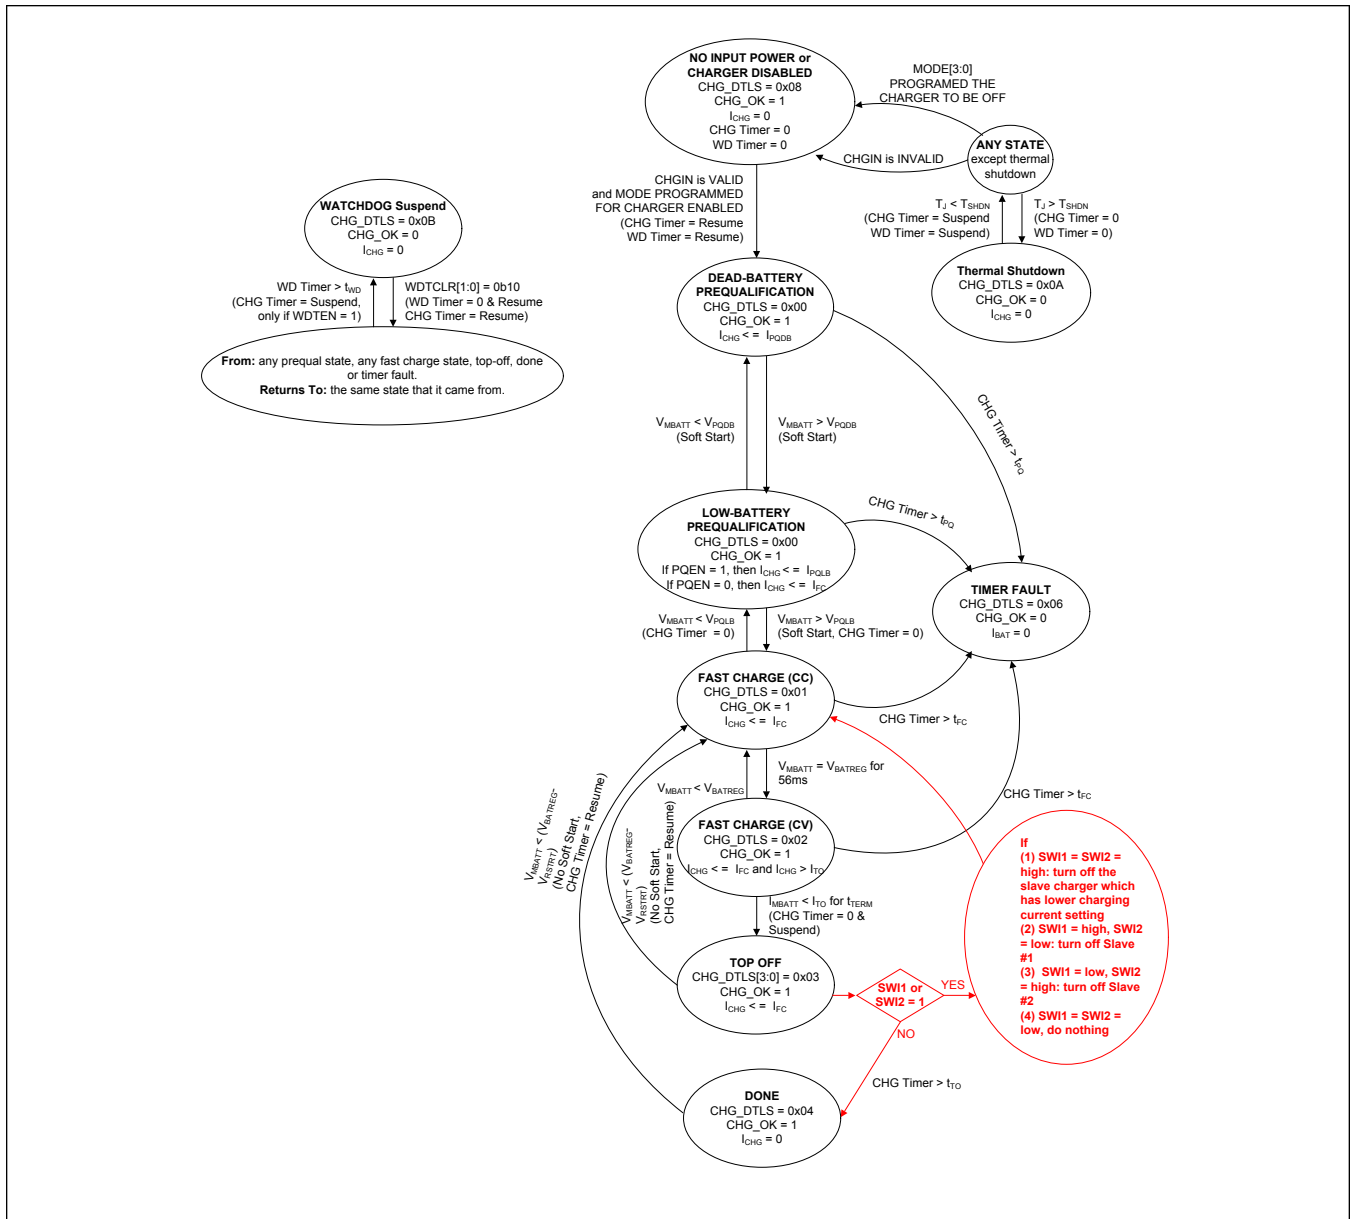
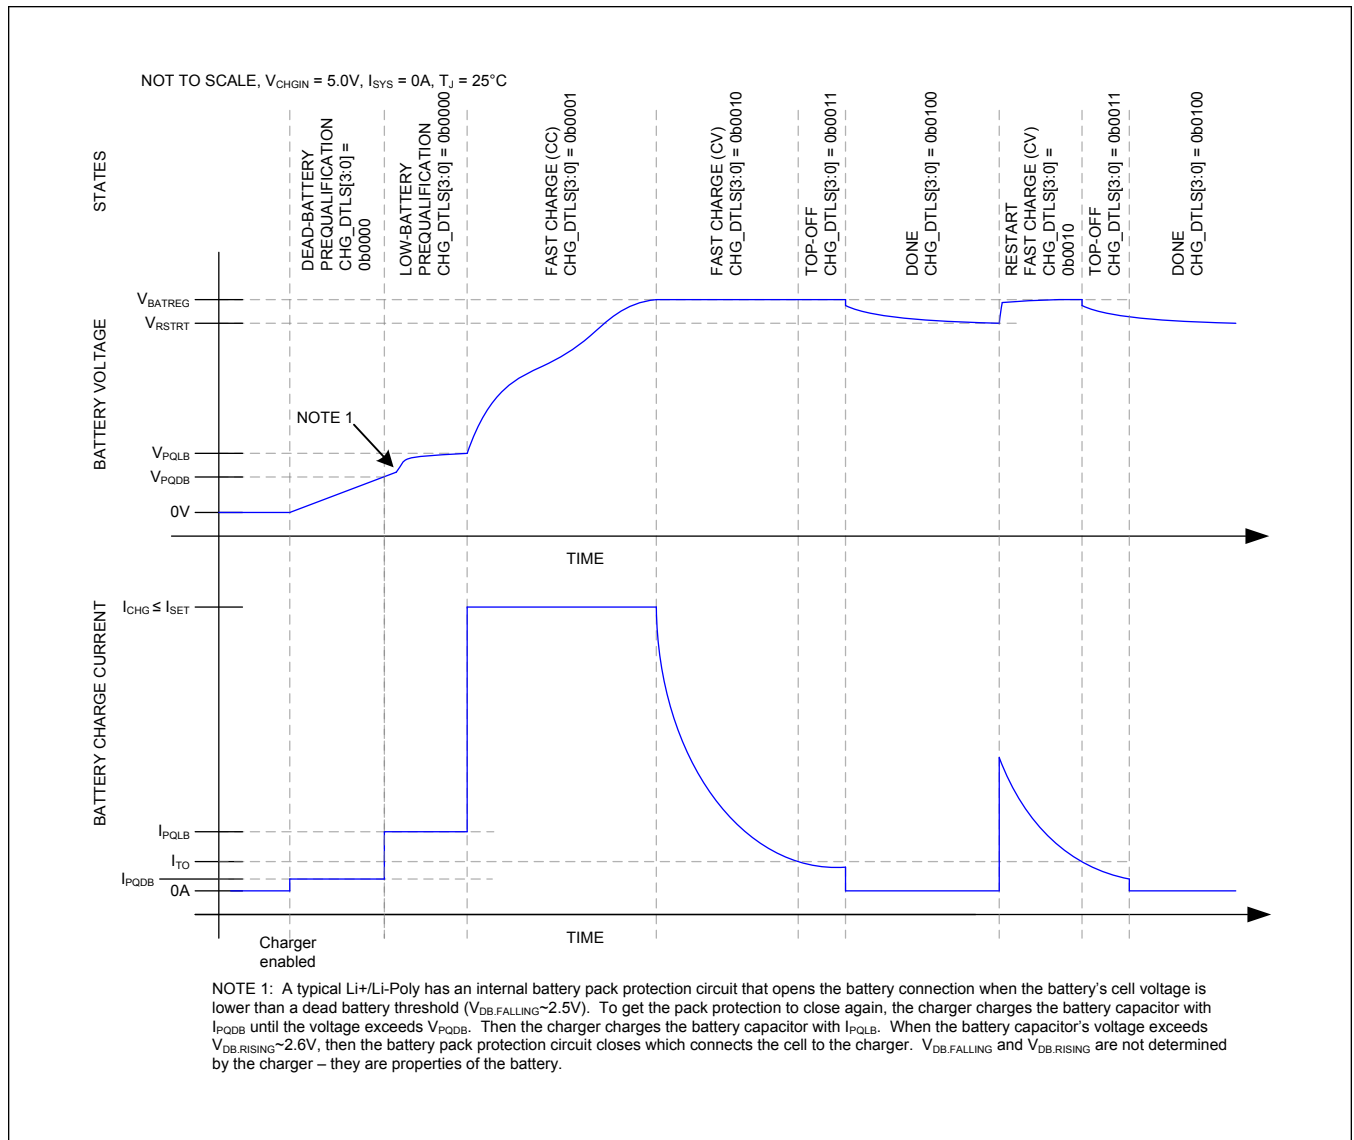
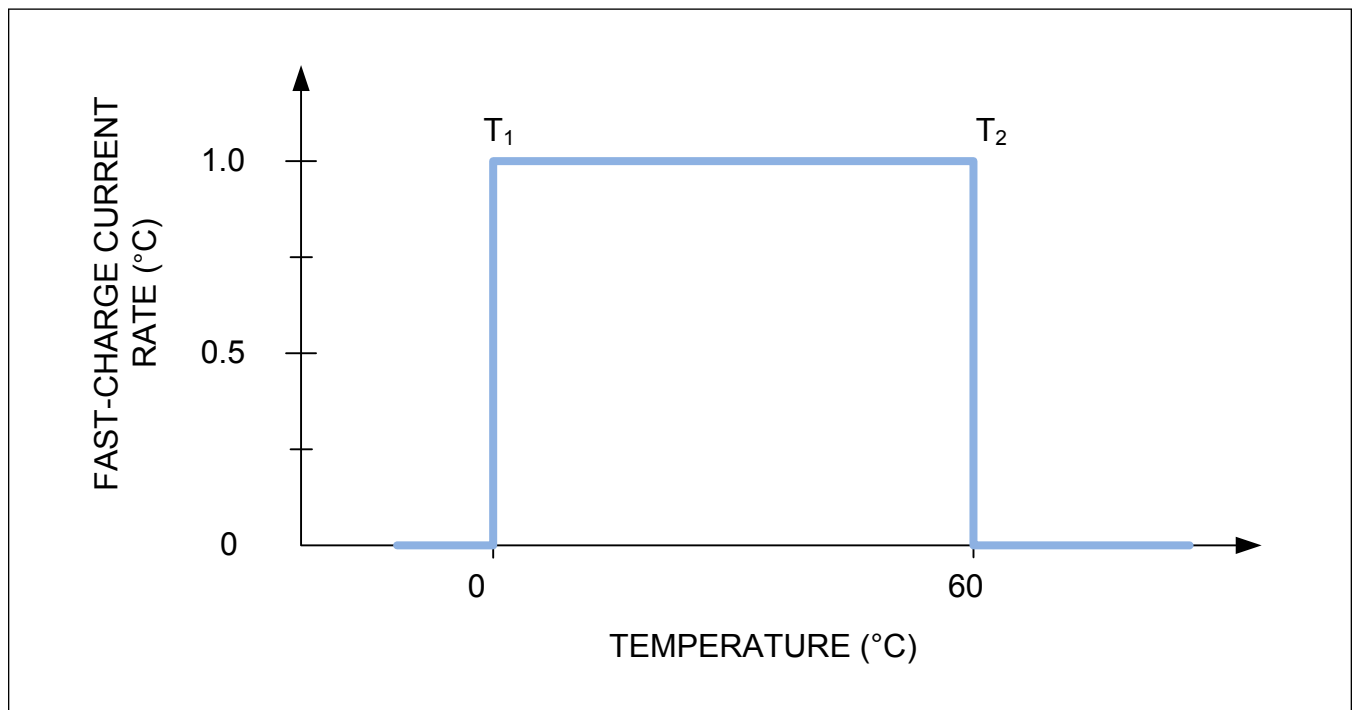

Figure 3. Charger State Diagram
Figure 4. Li+/Li-Poly Charge Profile
Figure 10. Thermal Shutdown Regions
DETBATB is tied to the ID pin of the battery pack. If DETBATB is pulled below 80% of  $V_{IO}$  pin voltage, this is an indication that the main battery is present and the battery charger starts upon valid CHGIN. If DETBATB is left unconnected or equal to  $V_{IO}$  voltage, this indicates that the battery is not present and the charger does not start upon valid CHGIN, see Figure 4. DETBATB is internally pulled to BATT through an external resistor. The DETBATB status bit is valid when BATT is not present.
The IC utilizes several charging states to safely and quickly charge batteries as shown in Figure 3. An exaggerated view of a Li+/Li-Poly battery is shown in Figure 4 when there is no system load and the die and battery are close to room temperature as it progresses through the following charge states:
As shown in Figure 3, the dead-battery prequalification state occurs when the main-battery voltage is less than  $V_{PQDB}$ . After being in this state for  $t_{SCIDG}$ , a CHG\_I interrupt is generated, CHG\_OK is set, and CHG\_DTLS is set to 0x00. In the dead-battery prequalification state, charge current into the battery is  $I_{PQDB}$ .
As shown in Figure 3, the fast-charge constant current (CC) state occurs when the main-battery voltage is greater than the low-battery prequalification threshold and less than the battery regulation threshold ( $V_{PQLB} < V_{BATT} < V_{BATREG}$ ). After being in the fast-charge CC state for  $t_{SCIDG}$ , a CHG\_I interrupt is generated, CHG\_OK is set, and CHG\_DTLS = 0x01.
As shown in Figure 3, the topoff state can only be entered from the fast-charge CV state when the charger current decreases below  $I_{TO}$  for  $t_{TERM}$ . After being in the topoff state for  $t_{SCIDG}$ , a CHG\_I interrupt is generated, CHG\_OK is set, and CHG\_DTLS = 0x03. In the topoff state, the battery charger tries to maintain  $V_{BATREG}$  across the battery and typically the charge current is less than or equal to  $I_{TO}$ .
As shown in Figure 3, the battery charger enters its done state after the charger has been in the toff state for  $t_{TO}$ . After being in this state for  $t_{SCIDG}$ , a CHG\_I interrupt is generated, CHG\_OK is cleared, and CHG\_DTLS = 0x04.
The battery charger provides both a charge timer and a watchdog timer to ensure safe charging. As shown in Figure 3, the charge timer prevents the battery from charging indefinitely. The time that the charger is allowed to remain in each of its prequalification states is  $t_{PQ}$ . The time that the charger is allowed to remain in the fast-charge CC and CV states is  $t_{FC}$ , which is programmable with FCHGTIME. Finally, the time that the charger is in the toff state is  $t_{TO}$ , which is programmable with TO\_TIME. Upon entering the timer fault state, a CHG\_I interrupt is generated without a delay, CHG\_OK is cleared, and CHG\_DTLS = 0x06.
In the timer fault state, the charger is off. The charger can exit the timer fault state by programming the charger to be off and then programming it to be on again through the MODE bits. Alternatively, the charger input can be removed and reinserted to exit the timer fault state (see the "ANY STATE" bubble in the upper right of Figure 3).
The battery charger provides both a charge timer and a watchdog timer to ensure safe charging. As shown in Figure 3, the watchdog timer protects the battery from charging indefinitely in the event that the host hangs or otherwise cannot communicate correctly. The watchdog timer is disabled by default with  $WDTEN = 0$ . To use the watchdog timer feature, enable the feature by setting  $WDTEN$ . While enabled, the system controller must reset the watchdog timer within the timer period ( $t_{WD}$ ) for the charger to operate normally. Reset the watchdog timer by programming  $WDTCLR = 0x01$ .
In the IC, the thermistor is monitored to turn off the charger during battery temperature fault events. The battery regulation voltage and current limits are not adjusted. As shown in Figure 3, the thermal shutdown state occurs when the battery charger is in any state and the junction temperature ( $T_J$ ) is higher than the device's thermal shutdown threshold ( $T_{SHDN}$ ) or below  $0^\circ\text{C}$ . When  $T_J$  is close to  $T_{SHDN}$ , the charger folds back the input current limit to  $0\text{A}$  so the charger and inputs are effectively off as shown in Figure 10. Upon entering this state, CHG\_I interrupt is generated without a delay, CHG\_OK is cleared, and CHG\_DTLS =  $0x0A$ .